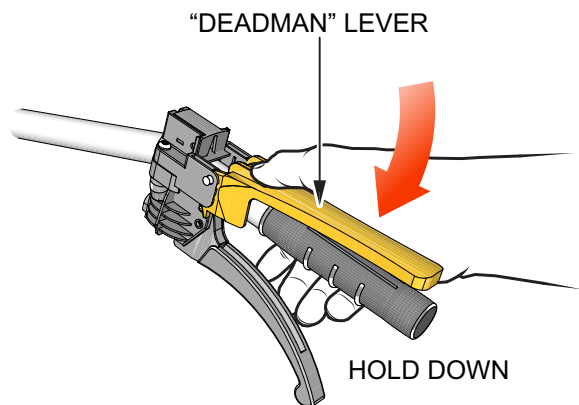

Figure 17. Deadman Lever (Gas)
- With the engine running, fully squeeze the **YELLOW** deadman lever (Figure 17) and hold down. Transmission is now active (unlocked).